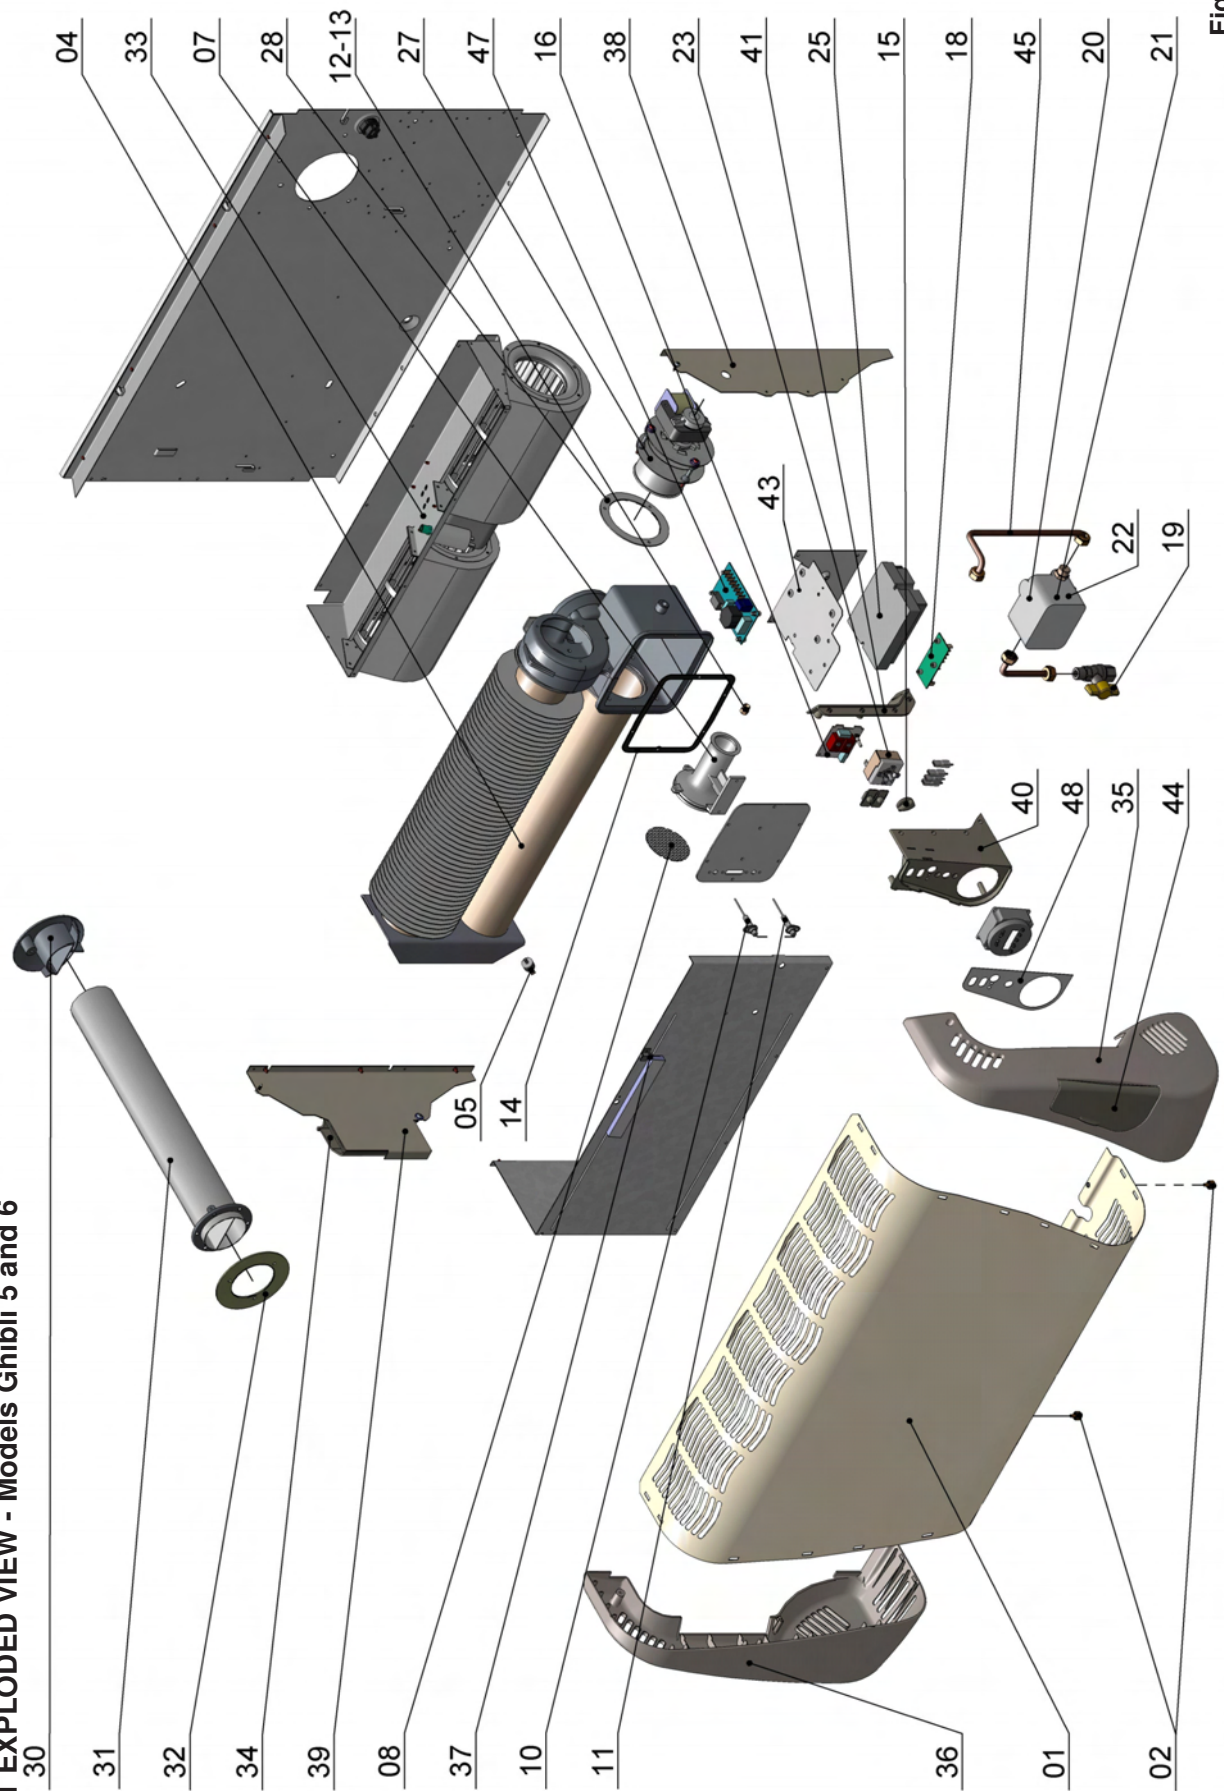

Fig. 6
**Legend of components Ghibli 5 and 6 (see fig.6)**